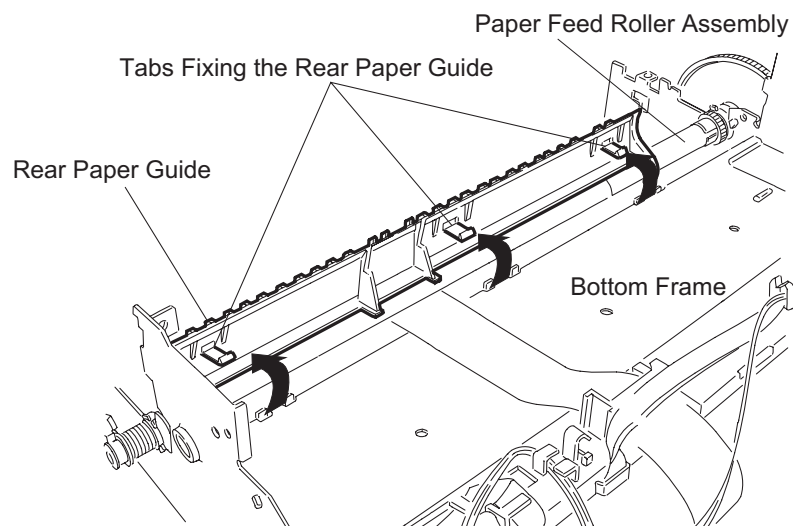

Figure 3-66. Rear Paper Guide Removal
Insert the cam in the direction shown in Figure 3-66 (top left illustration), and turn the combination gear right and left. Then check that gears turn smoothly.
- ① Move slider to the right, and check that it engages the combination gear smoothly. If not, turn combination gear (12 mm, 26 mm) in both directions, and check that they engage the slider properly, as shown in Figure 3-66 (bottom left illustration).
- ① Insert the cam in the direction shown in Figure 3-66 (top left illustration) and shift the slider to the right.
- ② Turn the combination gear (12 mm, 26 mm) clockwise, and check that the gear (16 mm) engages the combination gear (12 mm, 15 mm) and cam smoothly. Check that the combination gear (14.4 mm, 21.6 mm) turns along with the cam. Make sure gears rotate smoothly and immediately.
- ① Insert the cam in the direction shown in Figure 3-66 (top right illustration) and shift the slider to the left.
- ② Turn the combination gears (12 mm, 26 mm) counterclockwise, and check that the gear (16 mm) engages the combination gear (12 mm, 15 mm) and cam smoothly. Check that the combination gear (14.4 mm, 21.6 mm) turns smoothly along with the cam. Make sure the gears rotate smoothly and immediately.